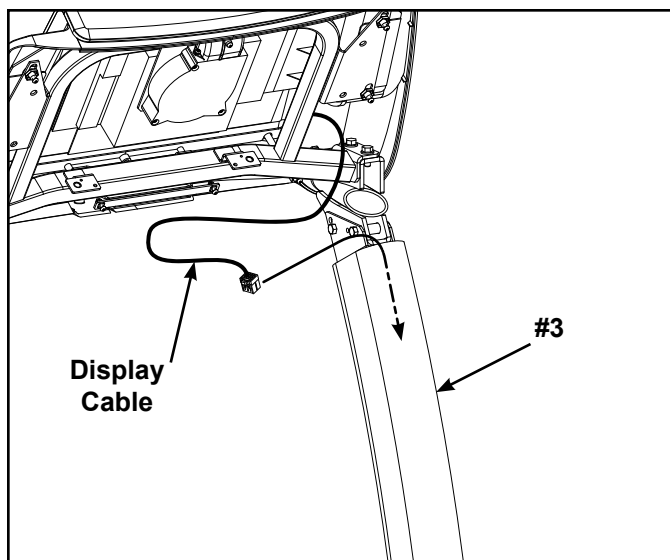

Figure 5
- B. Insert the display cable into the top of the left upright (#3) until it exits at the base of the upright (#3). See Figures 5 and 6.